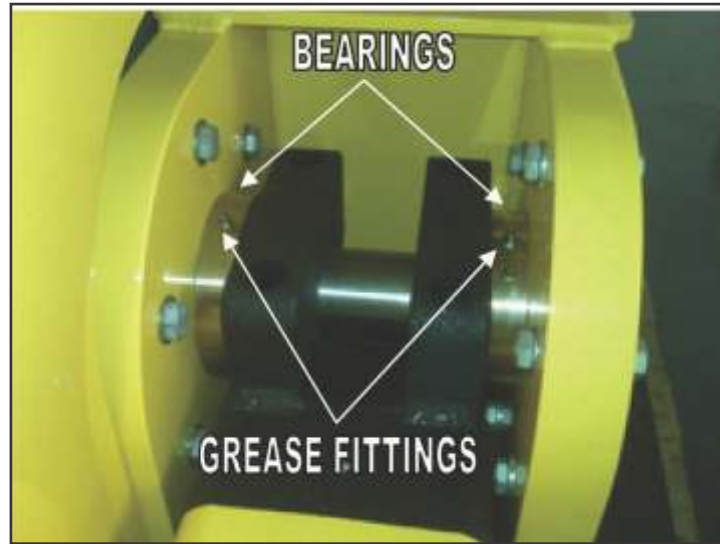

Figure 8a
*Grease the four arm bearings. Each arm has two bearings as shown in Figure 8a. Each bearing has one grease fitting.*